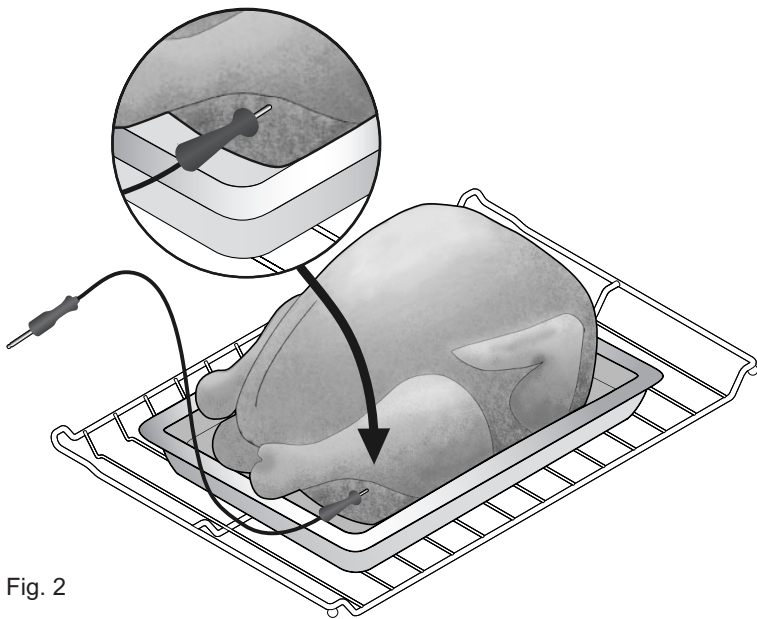

Fig. 2
- For whole poultry or turkey, insert the probe into the thickest part of the inner thigh, below the leg (See Fig. 2).